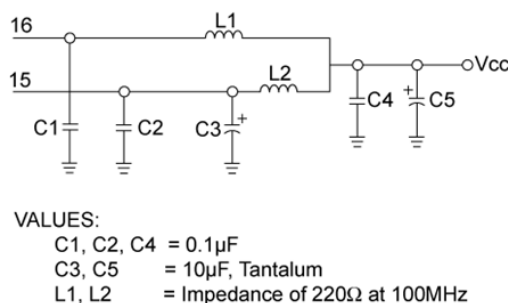

Figure 2 Shows the suggested layout for power and ground connections.
- Note 9** **VccR and VccT:** are the receiver and transmitter power supplies. They are defined as 3.3 V \pm 5% at the FRONT LOAD PLUGGABLE connector pin. Recommended host board power supply filtering is shown in **Figure 2**. When the recommended supply filtering network is used, hot plugging of the FRONT LOAD PLUGGABLE module will result in an inrush current of no more than 30 mA greater than the steady state value. VccR and VccT may be internally connected within the FRONT LOAD PLUGGABLE module
A suggested layout for power and ground connections is given in **Figure 2** below. Connections are made via separate voltage and ground planes. The mounting posts are at case ground and should not be connected to circuit ground. The ferrite bead should provide an impedance of $220\ \Omega$ at 100 MHz. Bypass capacitors should be placed as close to the 20 pin connector as possible.